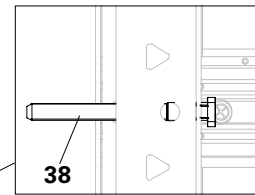

Fig. A6.06b
2. Install the HSA corner connector DW15 (38) through the hole of the panel into the anchor strut of the other panel. (Fig. A6.06b)